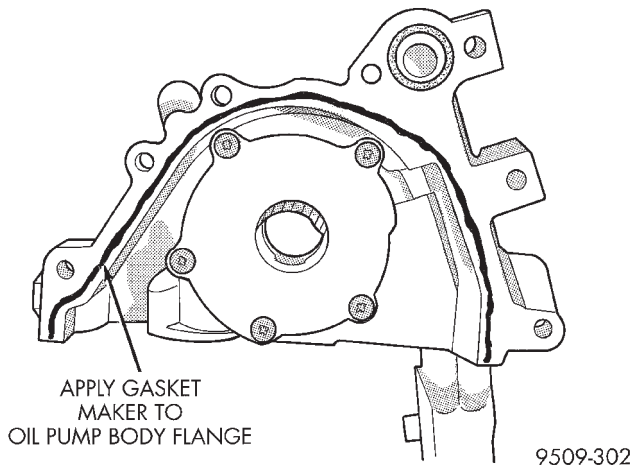

Fig. 79 Oil Pump Sealing
(1) Make sure all surfaces are clean and free of oil and dirt.
(2) Apply Mopar Gasket Maker to oil pump as shown in (Fig. 79). Install oil ring into oil pump body discharge passage.